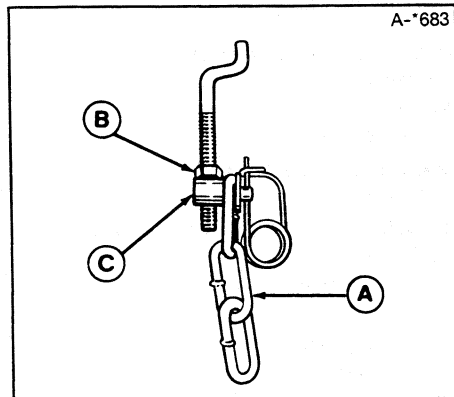

**Figure 40.**
5. If adjustment is required, turn adjusting nuts (A, figure 40) until proper clearance is reached. Tighten jamnuts (B).